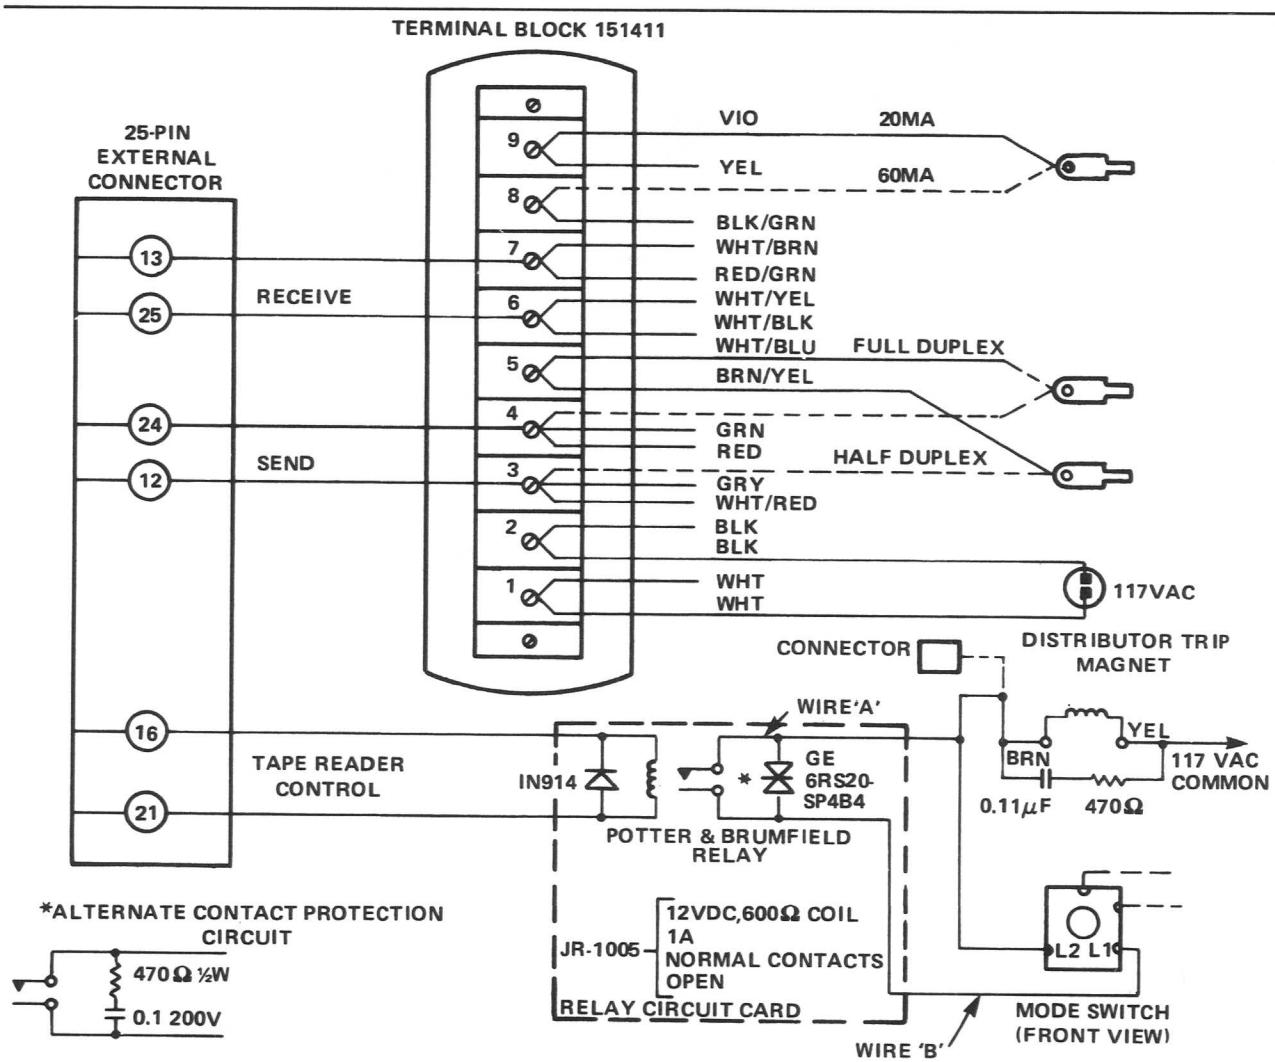
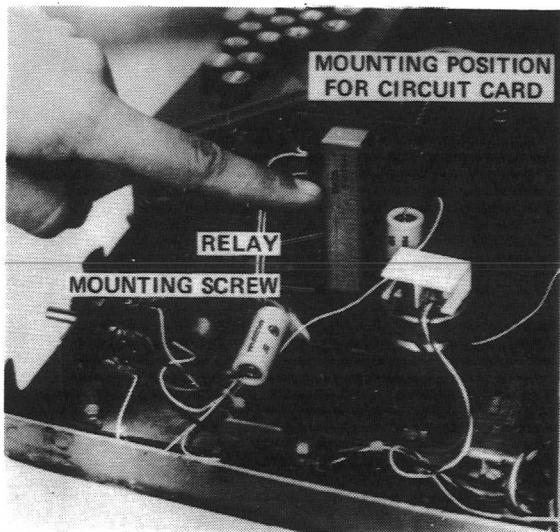
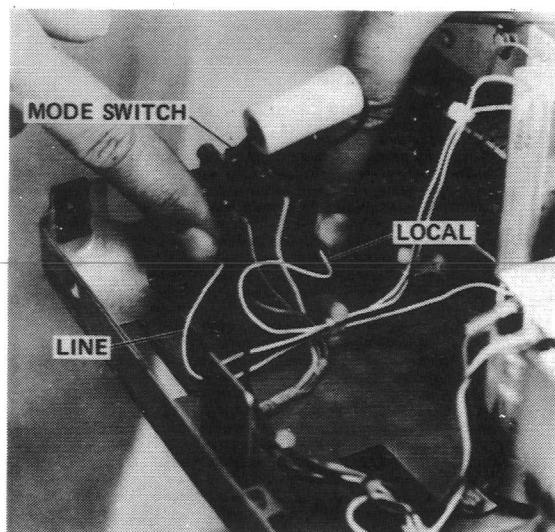

Figure C-4. Teletypewriter Modifications
Figure C-5. Relay Circuit
Figure C-6. Mode Switch
A circuit diagram of the relay circuit card is included in figure C-4; this diagram also includes the part numbers of the relay, diode, and thyrector. (Note that a 470- ohm resistor and a $0.1\mu F$ capacitor may be substituted for the thyrector.) After the relay circuit card has been assembled, mount it in position as shown in figure C-5. Secure the card to the base plate using two self-tapping screws. Connect the relay circuit to the distributor trip magnet and mode switch as follows:
1. Refer to figure C-4 and connect a wire (Wire A) from relay circuit card to terminal L2 on mode switch (see figure C-6).
3. Refer to figure C-4 and connect a wire (Wire B) from relay circuit board to terminal L1 on mode switch.
Connect a two-wire receive loop, a two-wire send loop, and a two-wire tape reader control loop to the external device as shown in figure C-4. The external connector pin numbers shown in figure C-4 are for serial channel 1 on the Intellec Series II system.